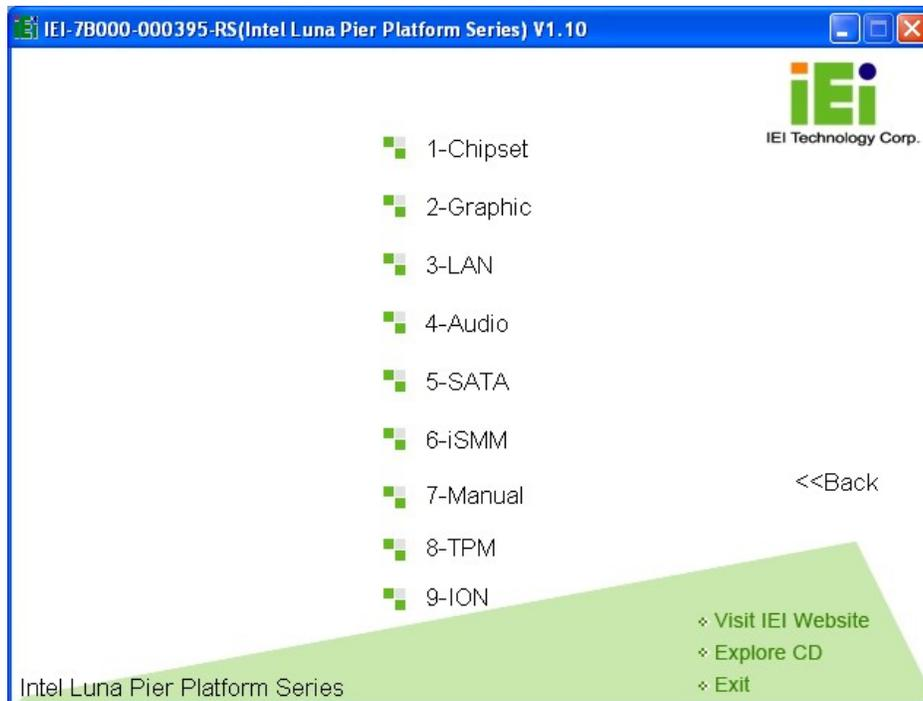

Figure 4-18: Available Drivers
Step 4: A new screen with a list of available drivers appears (**Figure 4-18**).